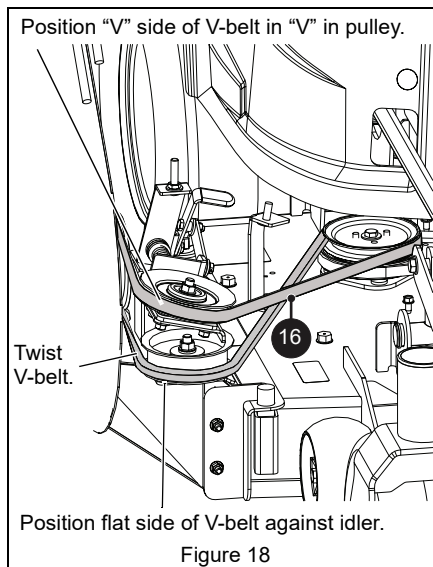

Figure 18
3. Route belt (item 16) over spindle sheave, idler pulleys and blower drive pulley. See Figure 18. for belt routing.